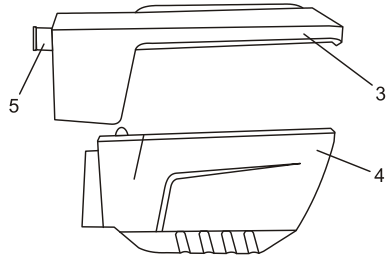

Fig. 3
2. Pry the top of the dust box (3) away from the bottom of the dust box (4) (Fig. 3).